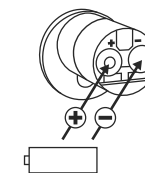

Fig. 3
- ③ Insert two new batteries. Make sure that the polarity is correct according to the drawing (Fig. 3).